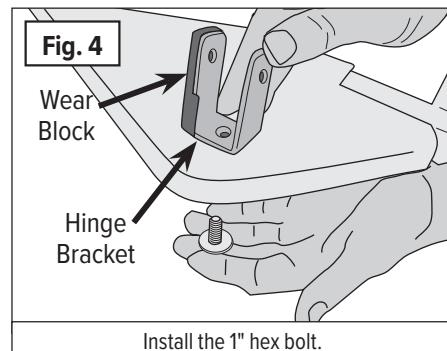

Fig. 4
1. **(Fig. 4)** Bolt one of the Hinge Brackets onto the Extender Bracket using a 5/16 x 1" bolt, washer and nylon lock nut provided in the **Extender Bracket hardware bag**. Install the bolt and washer up from the bottom.
2. **(Fig. 4)** Repeat on the other Extender Bracket.